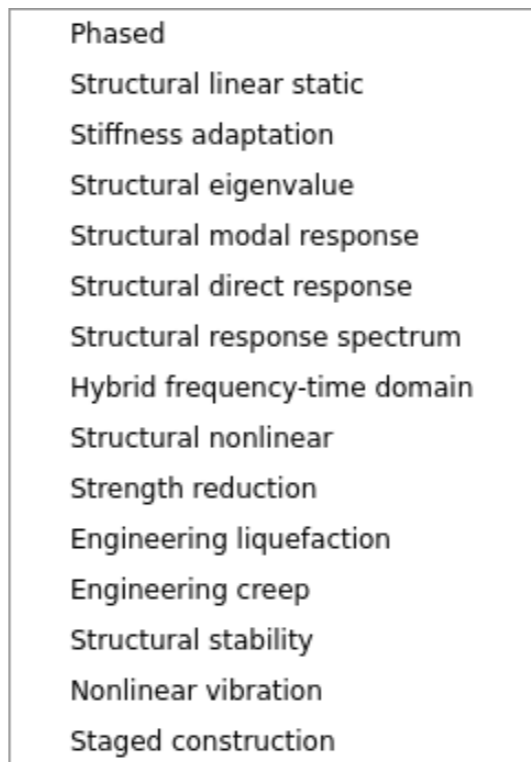
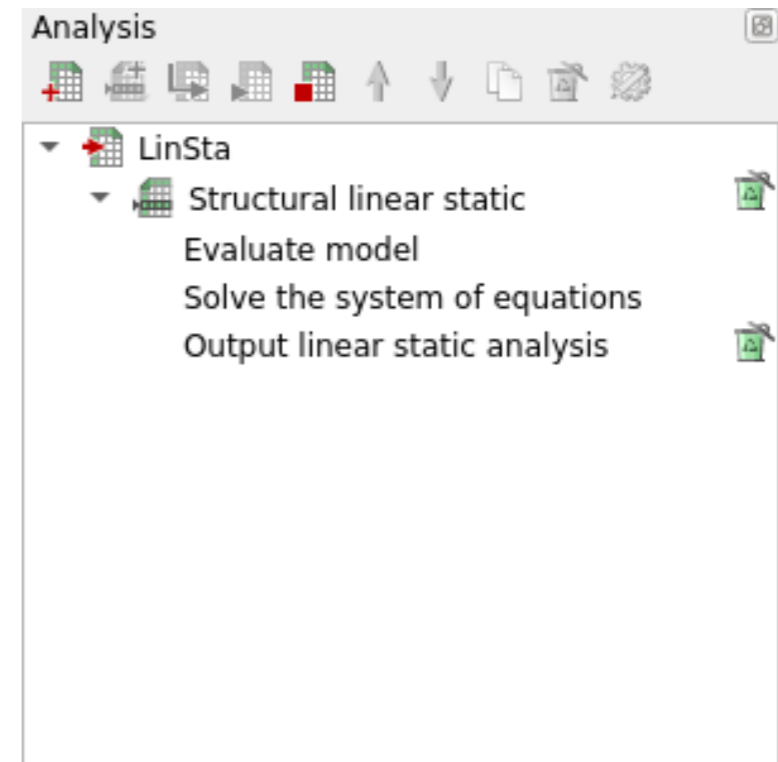

Figure 19: Command menu
Figure 20: Analysis browser
**Analysis browser** → LinSta  → Add command → Structural linear static [Fig. 19] [Fig. 20]